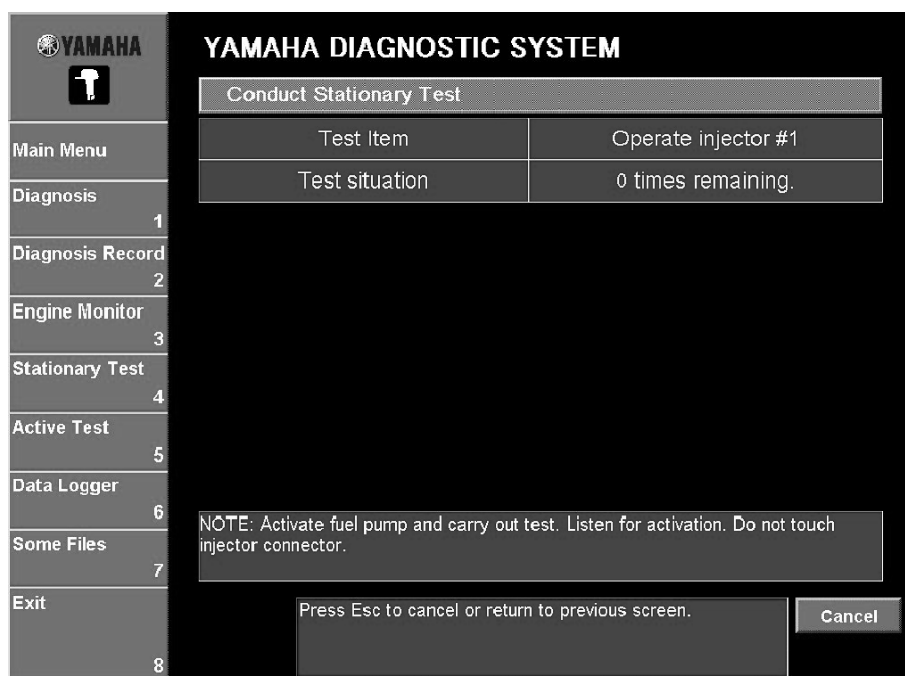

Fig. 49
5. To perform the test again on the same cylinder, click the **Execute** button or press the Enter key on your keyboard. To perform the test on a different cylinder, click the **Return [ESC]** button or press the Esc key on your keyboard to return to the window where a different test can be selected. (Fig. 49)